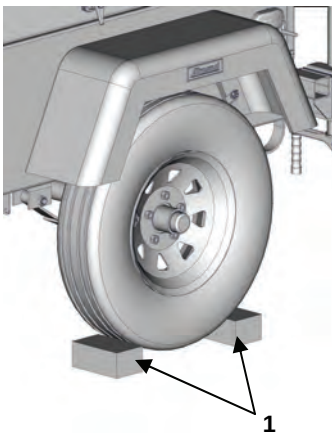

Figure 8
- Block each wheel on each side with a suitable wheel chock (**Figure 8,1**).